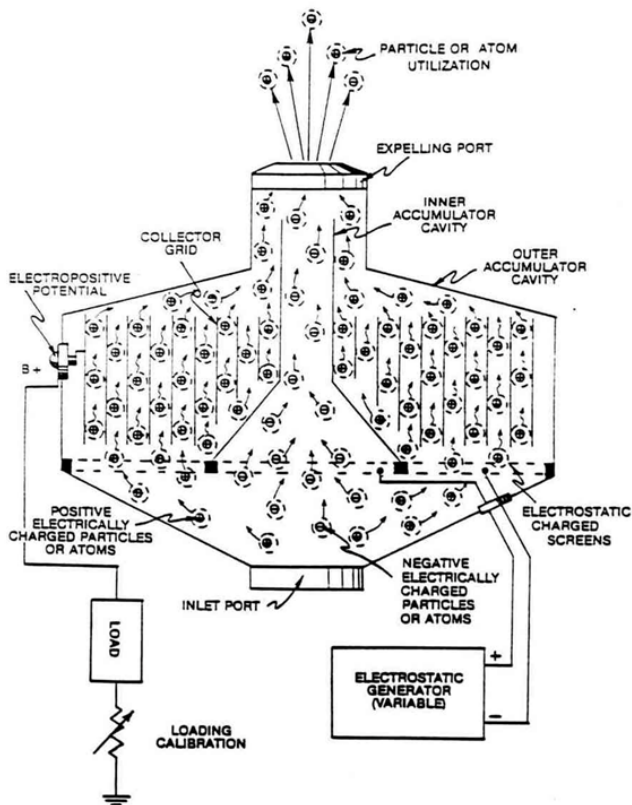

FIG. 40: ELECTRICAL POLARIZATION GENERATOR
Circuit State: Moving **electrically charged atoms** (1/2) through an **electrical grid system** (50) inserted into a **dual gas accumulator cavity** (30/40) separated by an **ambient air filtering screen assembly** (20A) of opposite voltage polarity... forming **Electrical Polarization Generator** (90), as illustrated in Figure 40 as to Figure 8 subtitled "Regenerative Energy Feedback Module."
After ionic gas formation, the electrically charged gases are expelled out of said **Fuel Cell** (Figure 20YAA) as to **Figure 3B** and enter into said **Electrical Polarization Generator** (90) of figure 40.
Electrical Skin Effect occurs when the electrical field that surrounds the gas ions touches the **electrical conduction plate** (6), as illustrated in Figure 40.